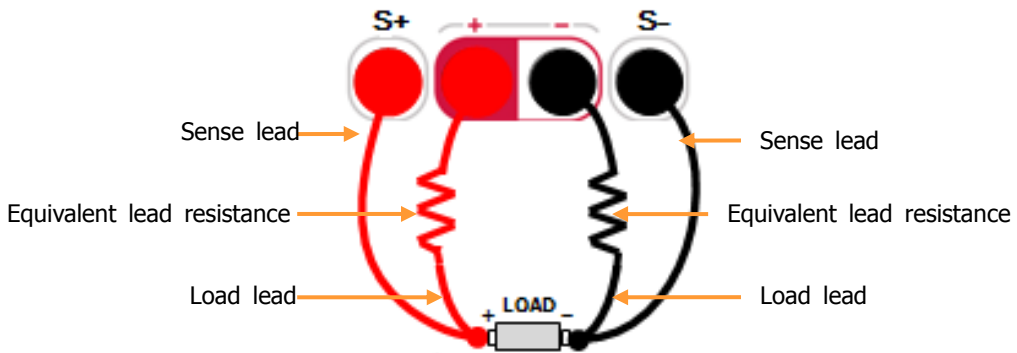

Figure 2-12 Sense connection
1. Connect the output terminals and the Sense terminals at the front panel of the instrument to both ends of the load as shown in Figure 2-12. Please pay attention to the polarity while connecting.